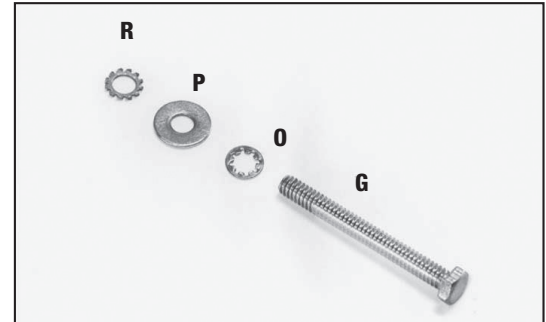

Fig. 10
3. Locate the 1/4-20x2-1/4" hex head screw (G) Fig. 10. Place the 1/4" internal tooth lockwasher (O) M6.4 flat washer (P) and the 1/4" external tooth lockwasher (R) on the screw (G).